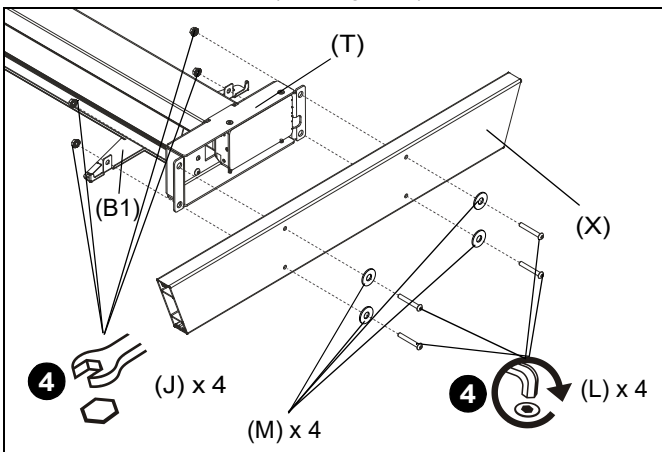

Figure 2
4. Use four 5/16-18 x 2 1/4" button head cap screws (L), 5/16" washers (M) and four 5/16-18" hex nuts (J) to secure cross brace (X) to column assembly (T) and bottom back cover (B1). (See Figure 2)
NOTE: Make sure cross brace is positioned in the proper orientation before attaching. There is a "this side up" label on the top. (See Figure 2)